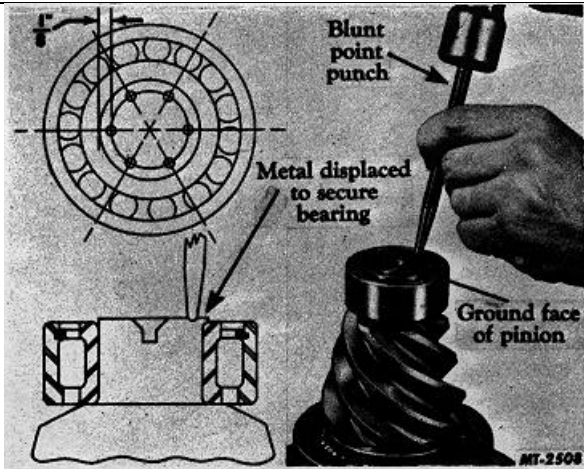

Fig. 9 Staking Pinion Straddle Bearing
1. Press rear thrust bearings (6) firmly against shoulder of pinion shaft (12).
2. Press radial bearing (13) on stub end of pinion shaft (12) and against pinion. Stake face of pinion evenly in six places to secure radial bearing in place (Fig. 9).